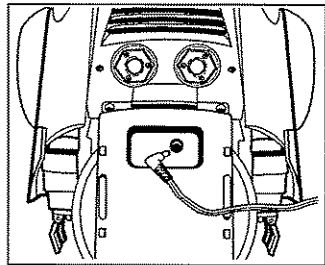

Fig 5
2). Insert cable jack into audio receptical. (see Fig 5)